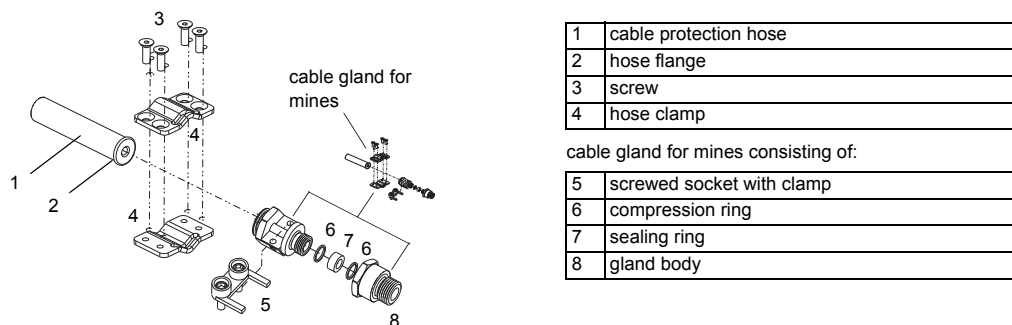

Fig. 8.4: Cable gland for mines M16
- Open the cable gland for mines (see Fig. 8.4).
- Push the end of the transducer cable with the stripped leads through the hose flange (2), screwed socket (5), compression rings (6), sealing ring (7) and gland body (8) into the housing (see Fig. 8.4).
- Push the hose flange (2) into the cable protection hose (1).
- Screw the gland body (8) into the housing.
- Fix the screwed socket (5) and the gland body (8) with the clamp by firmly tightening the screws of the clamp.
- Fix the cable protection hose (1) at the cable gland for mines with the hose clamp (4) by tightening the screws firmly (see Fig. 8.4).